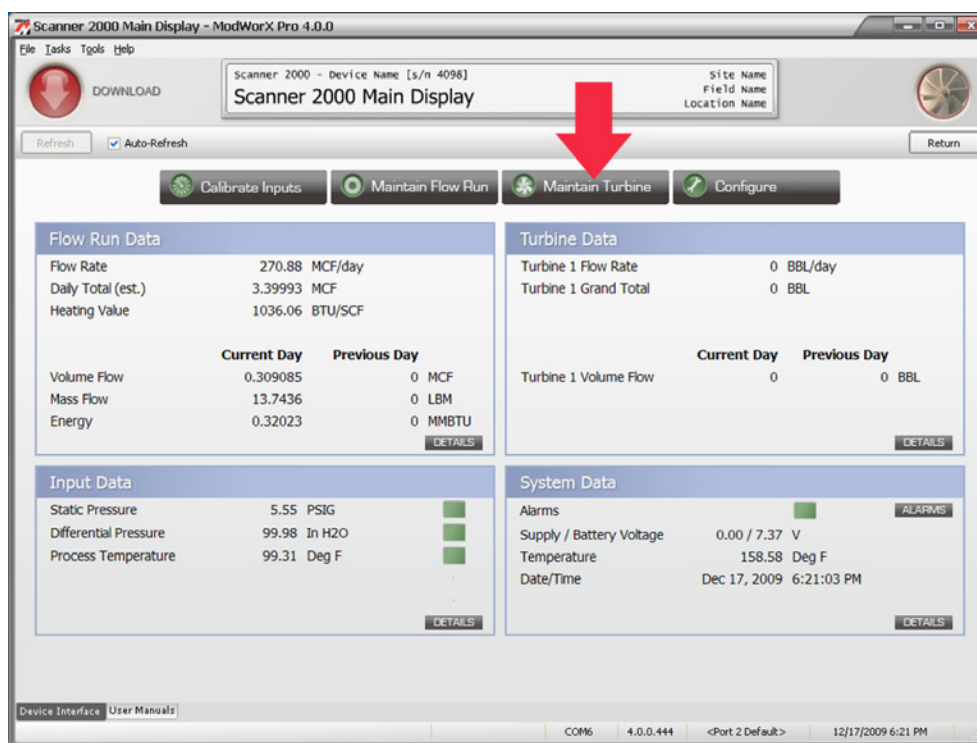

Figure 13.1
1. Click on the **Maintain Turbine** button in the task menu bar on the Main Display screen (Figure 13.1).